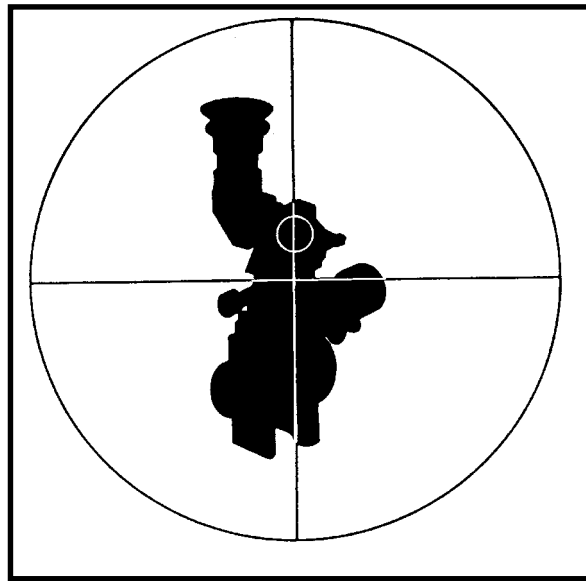

Figure 2-30. Sighting on the mortar sight.
c. Each gunner repeats the announced deflection for his mortar, places the deflection on his sight (using the red fixed scale), and re-lays on the sight of the base mortar. When the lens of the base mortar sight is not visible, the gunner lays the vertical cross line of his sight on one of the other three mortar sights (Figure 2-30, page 2-44). He is laid in by this mortar once it is parallel to the base mortar sightunit. He then announces, "Number one (or three), ready for recheck."